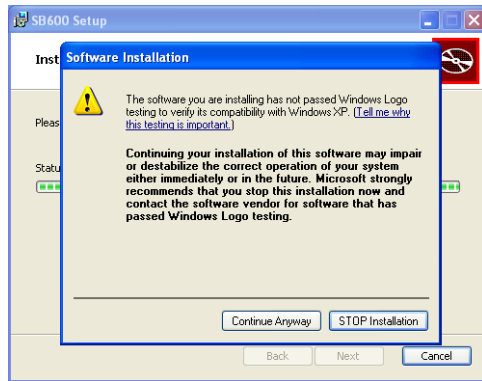

Fig. 3
- e) We assure you that our software driver has been fully tested to function properly under Windows environment, select the Continue Anyway button to proceed with the installation, if it displays. (Fig. 3).